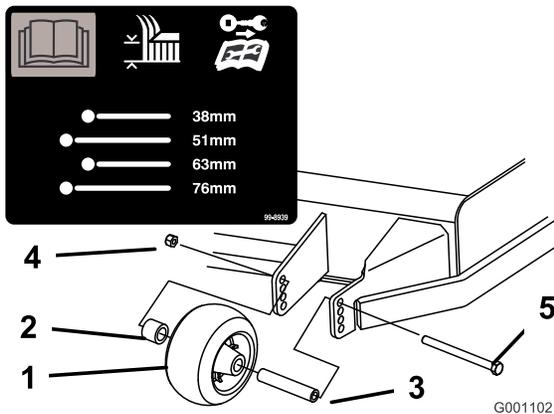
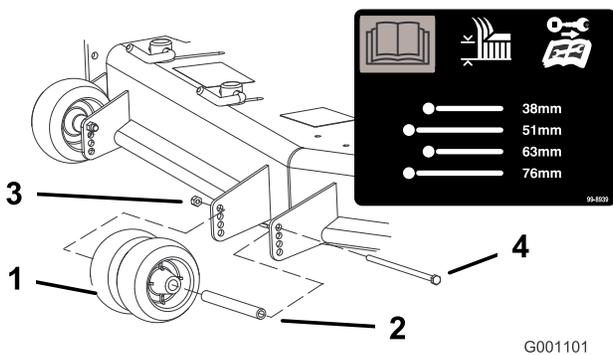
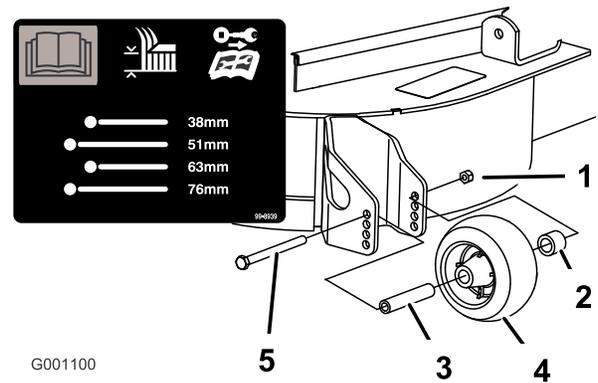

Figure 19
Figure 20
Figure 21
3. After adjusting the height-of-cut, adjust the rollers by removing the flange nut, bushing, spacer, and bolt (Figure 19 , Figure 20 and Figure 21).
Note: The two middle rollers will not have a spacer (Figure 20).
5. Install the flange nut bushing, spacer, and bolt. Torque to 40-45 ft-lb (54-61 N•m) (Figure 19 , Figure 20 and Figure 21).